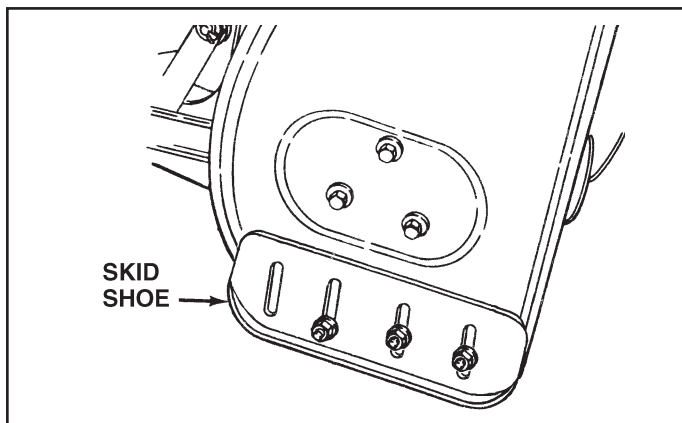

FIGURE 64
CHECK SCRAPER AND SHOES FOR WEAR (Refer to figures 64 and 65 on page 29.)
- Raise the snow thrower off the ground and place a block under each end of the scraper plate. Loosen the six hex nuts securing the skid shoes to the housing. Adjust the skid shoes up or down and retighten the nuts securely. Adjust both skid shoes to the same height to keep the housing and the scraper plate level. See figure 64.